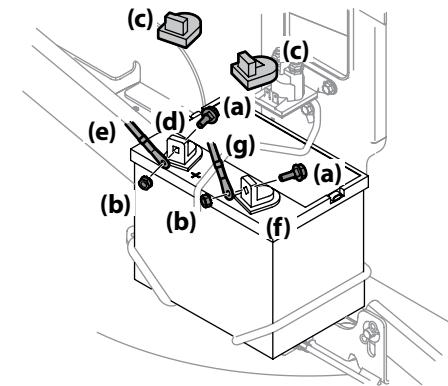

Figure 2-14
1. Remove the factory installed hex bolts (a) and sems nuts (b) located on the end of the wiring harness. Retain the hardware for later instructions. See Figure 2-14.
2. Remove the plastic cover (c), if present, from the positive battery terminal (d) and attach the red cable (e) to the positive battery terminal (b) with one of the hex bolts (a) and sems nuts (b), removed in step 1. Use a $\frac{7}{16}$ " wrench and socket. See Figure 2-14.
3. Remove the plastic cover (c), if present, from the negative battery terminal (f) and attach the black cable (g) to the negative battery terminal (f) with the remaining hex bolt (a) and sems nut (b). See Figure 2-14.